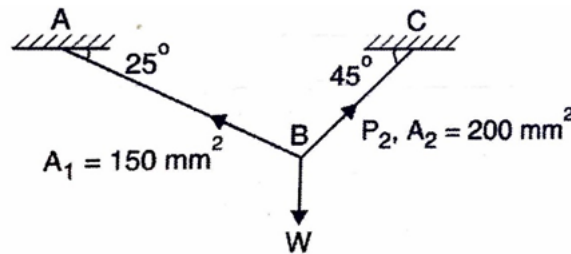

Figure 1
- (b) Determine the maximum weight W that can be supported by two wires as shown in Figure 1, if the stress in each wire is $120\text{N}/\text{mm}^2$. [BL: Apply| CO: 1|Marks: 7]